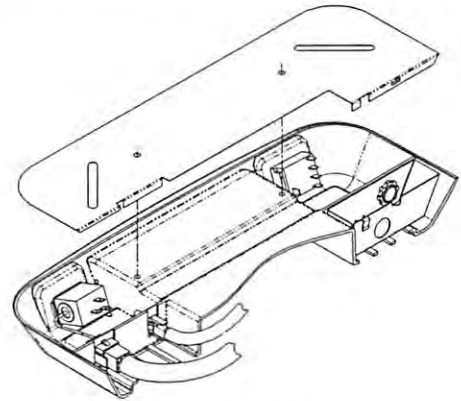

FIGURE 12
an Elect-A-Heat equipped ceiling assembly, plug the heater cord into the 2 position receptacle (See Figure 12).
- H. Place the metal control box shield over the thermostat, switch and field wiring boxes. Make certain that all wires are pushed into the control boxes or laying in the wireway between the thermostat and switch boxes and will not be pinched by the control box shield. Control box shield is properly installed when the two holes in the shield are aligned with the two screw holes in the ceiling assembly chute (See Figure 12).